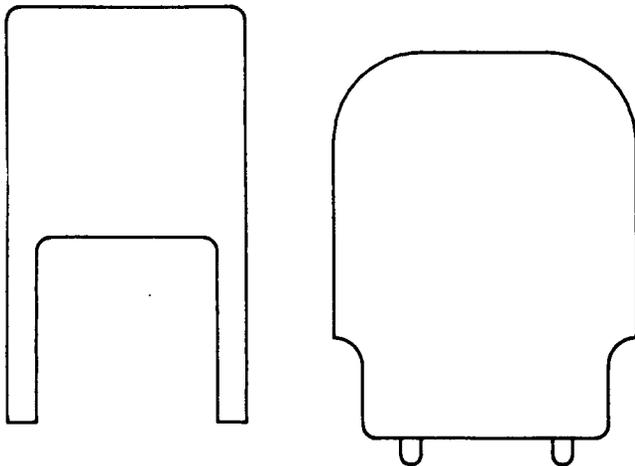

Fig. 21—988A Connector
2.17 **988A:** The 988A connector (Fig. 21) is designed to be used on the 93-type connecting block to shorten the volt-ampere (VA) lead to the -48 volt lead for Switching Maintenance Access System applications.